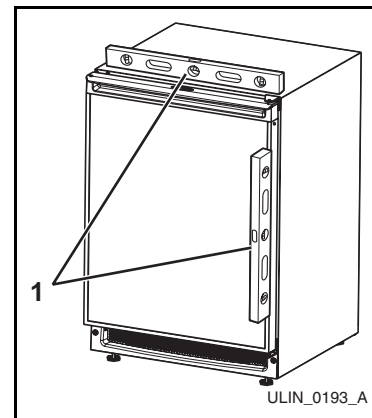

Figure 10
1. Use a level to check the levelness of the unit from front to back and from side to side. Level should be placed along top edge and side edge as shown (**Figure 10**).